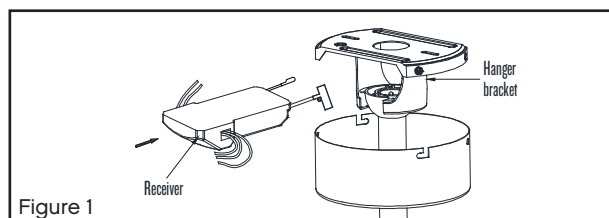

Figure 1
- I** Insert the receiver into the ceiling mounting bracket with the flat side of the receiver facing the ceiling. (Fig. 1) For best performance, make sure the black antenna and WiFi antenna, on the end of the receiver, remains extended and not tangled with any of the electrical wires. Place the WiFi antenna on the outside of the canopy and stick/fix it on the ceiling.